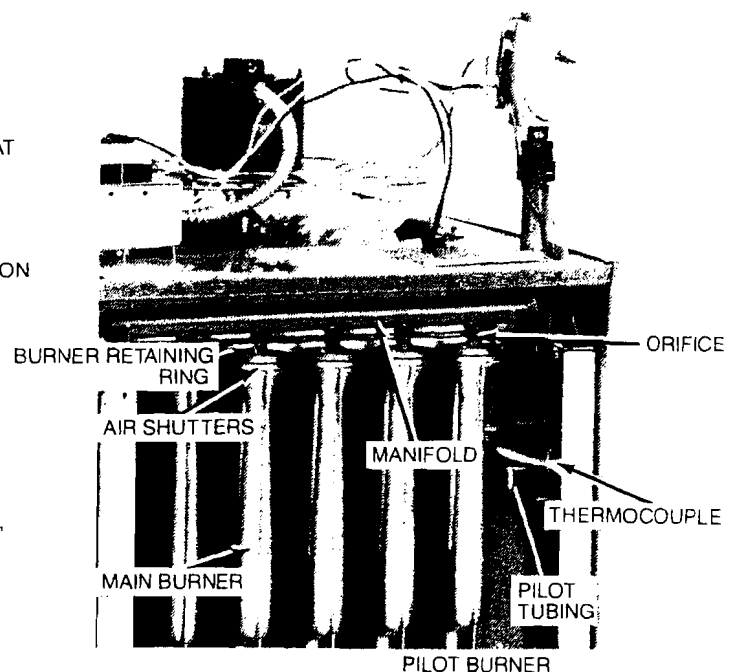

Figure 11 — Pilot Burner
4. After the unit heater has been operating for at least 15 minutes, adjust the primary air flow to the burners as follows; turn friction locked manually rotated air shutters clockwise to close; counterclockwise to open. (See Figure 11.)